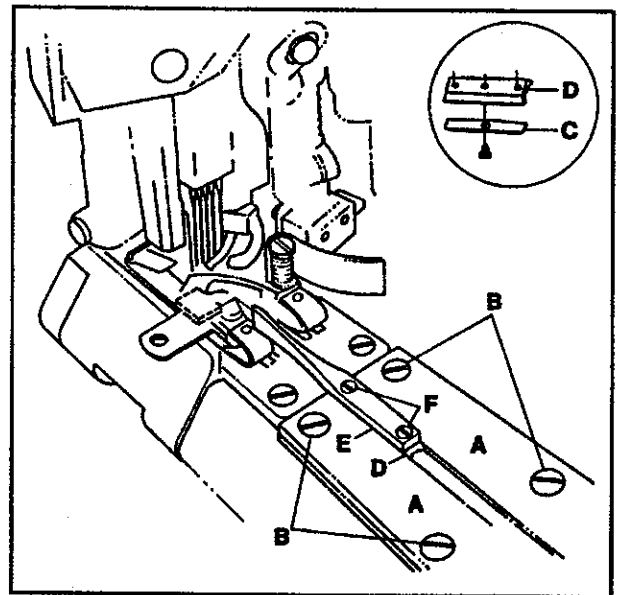

FIG. 37
Attach gibs (A, Fig. 37) to the cylinder cover but do not tighten screws (B); leave them snug for further adjustment. Fasten spring (C, Fig. 37 inset) to the bottom of slide block (D) and insert between gibs (A). Attach lap former (E) to slide block (D) with screws (F) and position it in the center of the presser foot. Position the slide block so it has a snug (but not tight) fit the entire length of the gibs. Tighten screws (B).